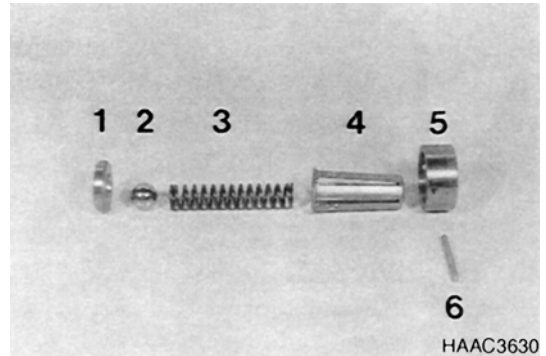

Figure 270
1. Figure 270, shows the components of the converter safety valve.
2. Reassemble components according to Figure 270, preload and attach using cylindrical pin.